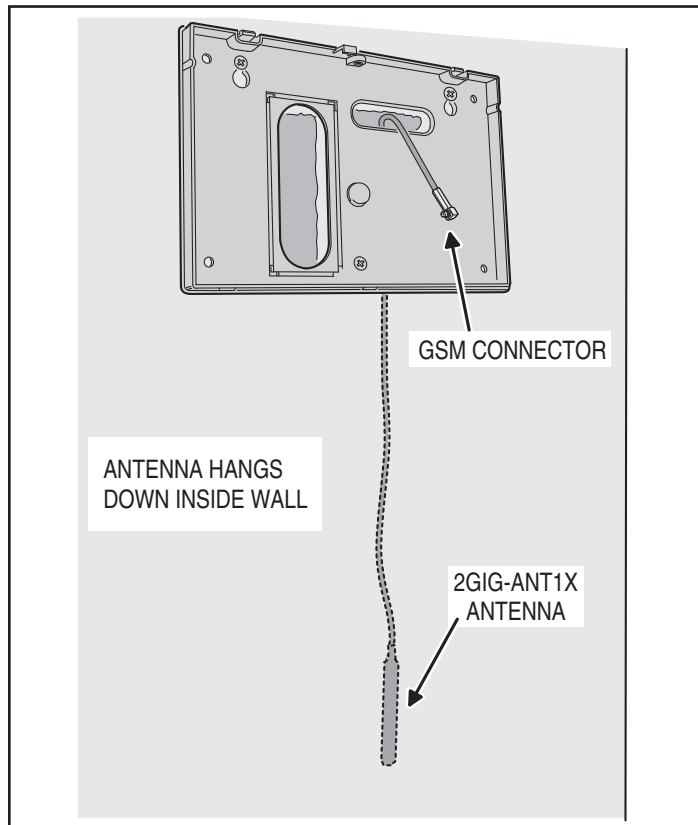

Figure 14. ANT1X In-wall GSM Antenna Installation
- 2B. If using one of the external antennas, simply plug the antenna connector into the GSM module. The antenna will drop into the wall or mount in the attic with the cable passing through the slot in the Control Panel's mounting plate. See Figures 14 & 15.